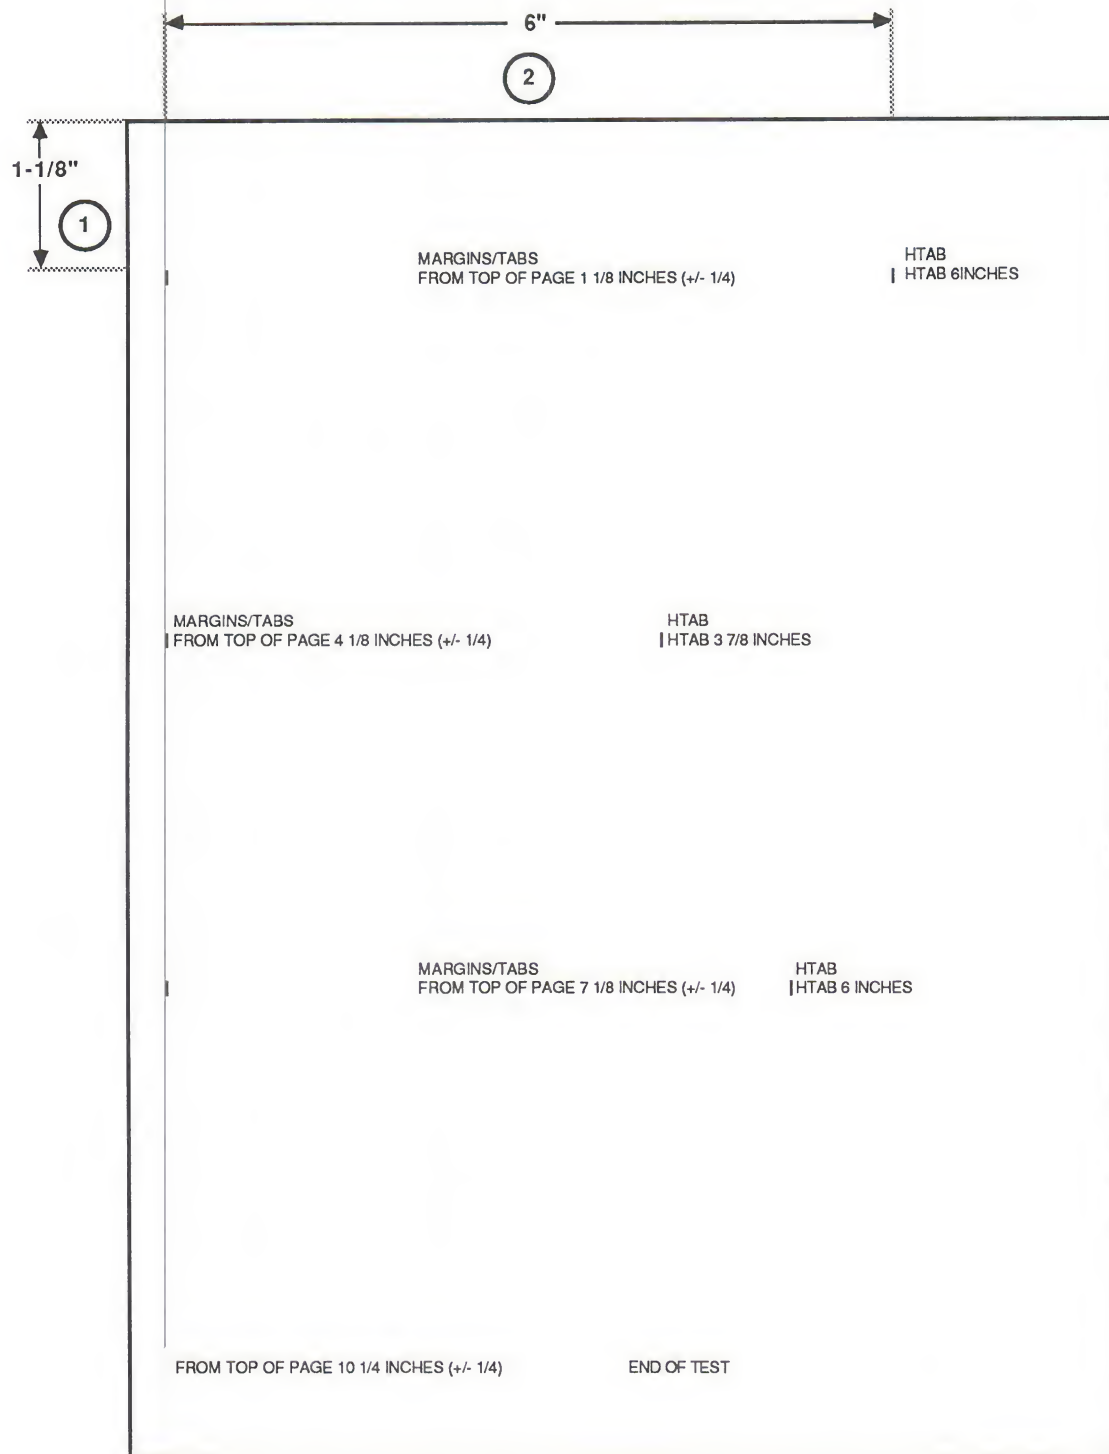

FIGURE 1
- Prints lines and tabs with measurements given for verification, as in the example at left (Figure 1), which shows the test printout from ImageWriter II.
If paper is aligned in the printer correctly, the distance from the top of the page to the interspace between the first two printed lines (Figure 1, #1) and the distance between tab lines (Figure 1, #2) should be as indicated on the printout, give or take the acceptable variance. **The measurements given will vary from printer to printer.**